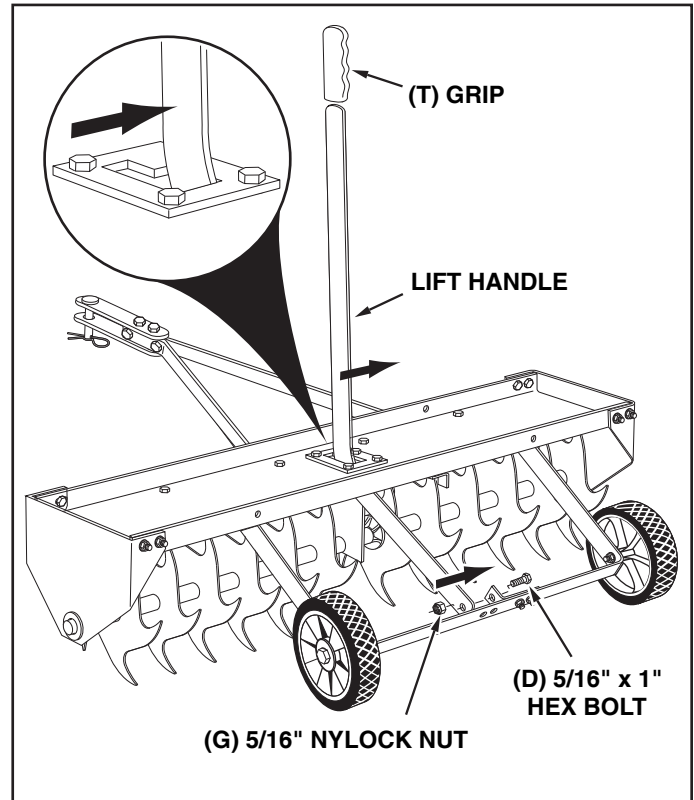

FIGURE 15
25. Assemble the lift handle through the tray and attach it to the hitch arm mount bracket assembled to the axle bracket. Use a 5/16" x 1" hex bolt (D) and a 5/16" nylock nut (G). **Tighten.** See figure 15.
26. Position the hitch arm mount bracket so that there is side tension on the lift handle when it is locked in the up position. **Tighten** the nuts. See figure 15.
27. Assemble the grip (T) onto the end of the lift handle. See figure 15.